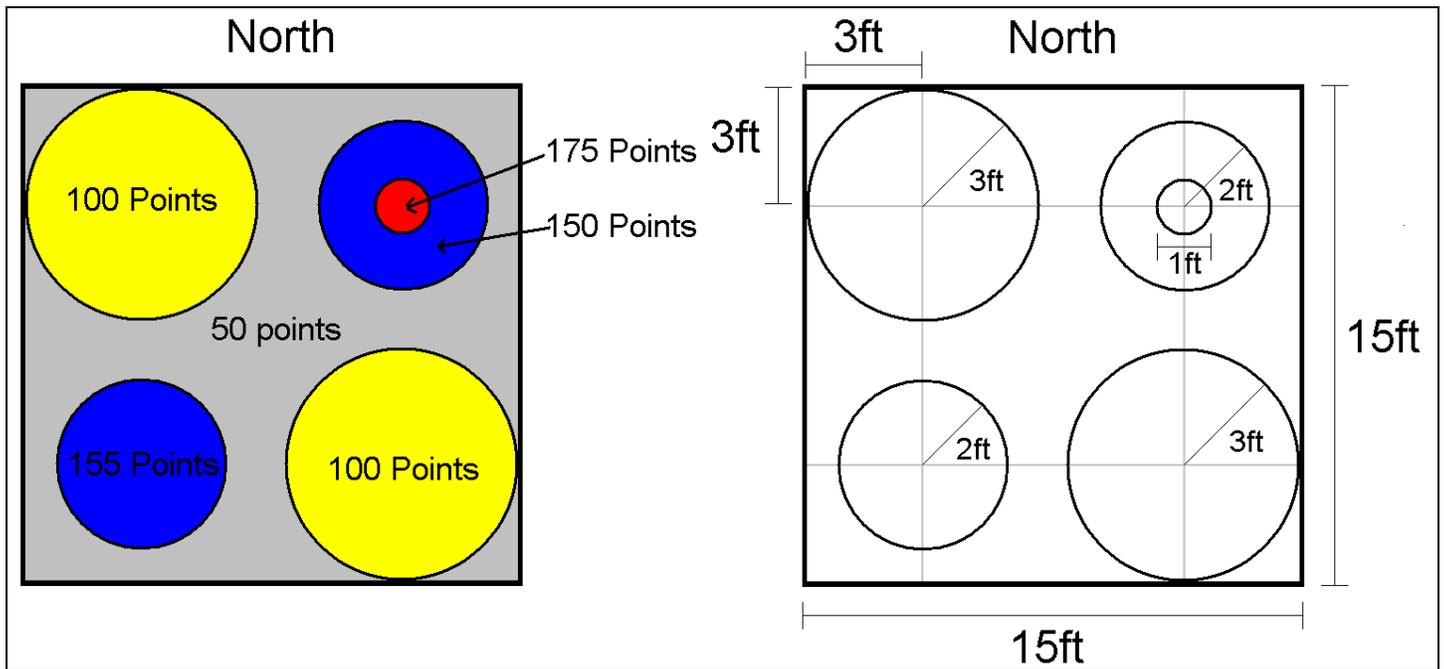

Figure 3: Target area point values and dimensions
- The location where the part of the contraption with the egg in it first lands in each round, denoted as S₁ for the score of the first round and S₂ for the score of the second round. See Figure 3